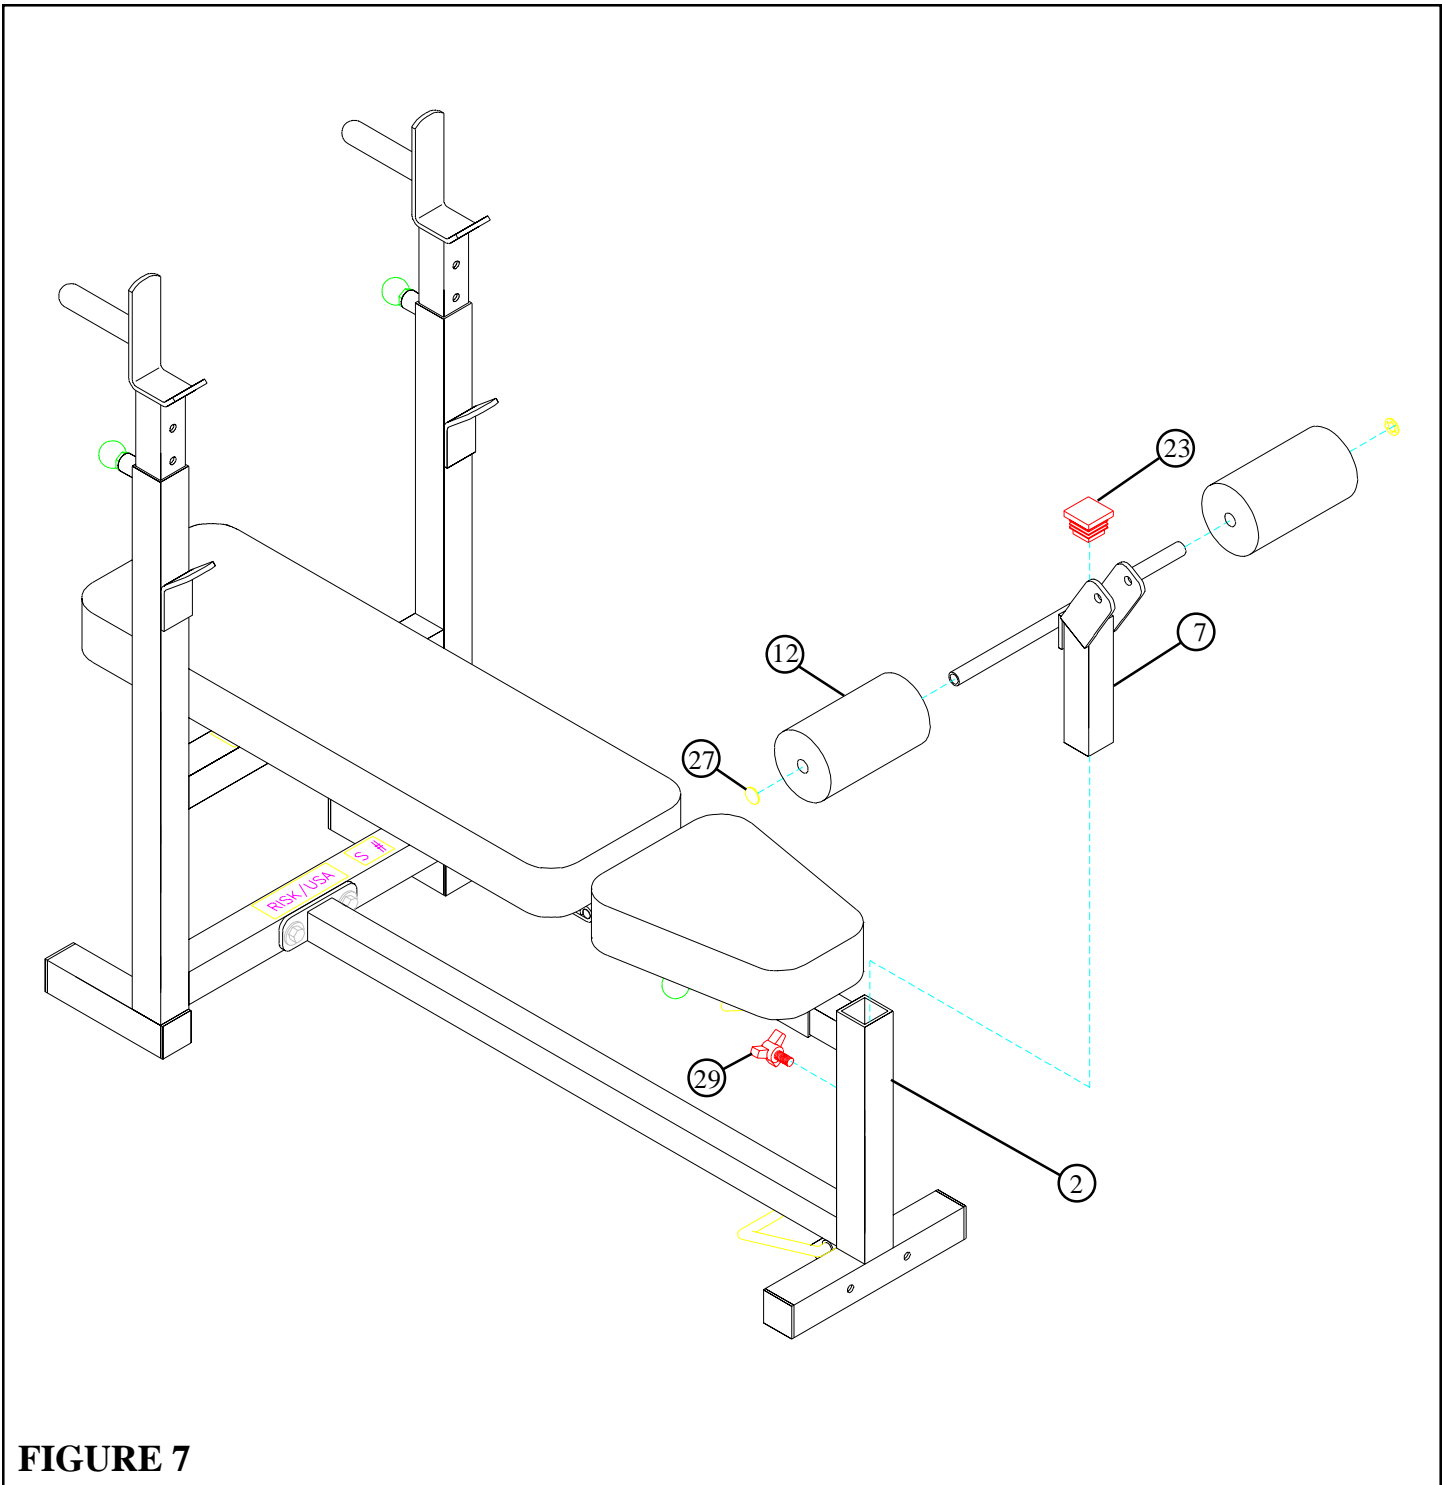

**FIGURE 6**
- To assemble the BACK PAD (14) to the WOLFF SLEEVE (4), slide the two remaining HINGE TABS (9) over the PIN of the WOLFF SLEEVE (ONE ON EACH SIDE) as shown in FIGURE 6, and **SECURELY** assemble each HINGE TAB (9) to the BACK PAD (14) using two 3/8 X 1" BOLTS (15), two 3/8" LOCK WASHERS (20), and two 3/8" WASHERS (19). (**MAKE SURE BOTH HINGE TABS ARE ALL THE WAY ON THE PIN**)